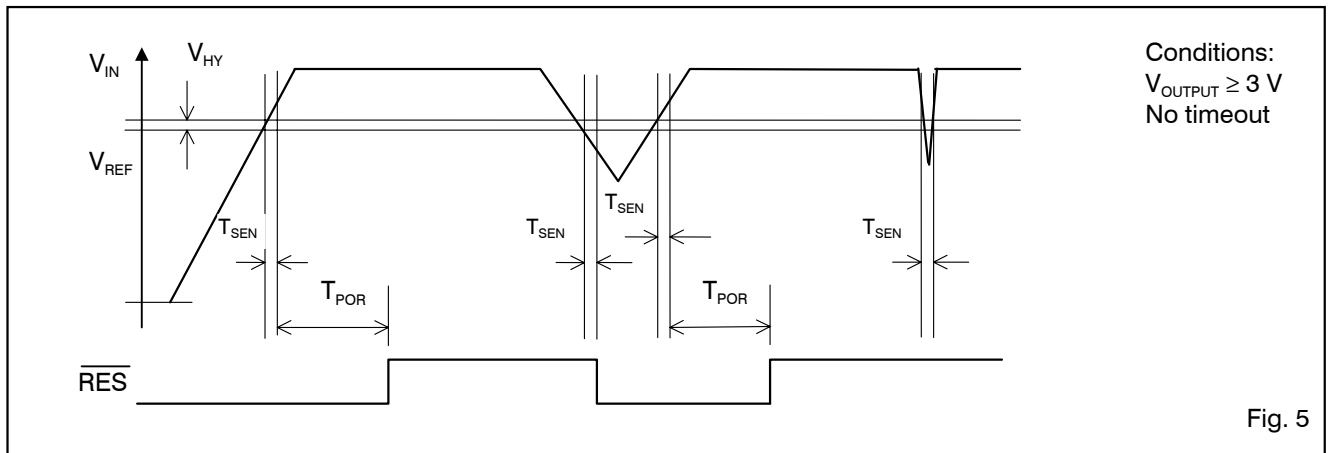

Fig. 5
- 7) The comparator reference is the power-down reset threshold. The power-on reset threshold equals the comparator reference voltage plus the comparator hysteresis (see Fig. 5).
At power-up the reset output ( $\overline{RES}$ ) is held low (see Fig. 5). After INPUT reaches 3.36 V (and so OUTPUT reaches at least 3 V) and  $V_{IN}$  becomes greater than  $V_{REF}$ , the  $\overline{RES}$  output is held low for an additional power-on-reset (POR) delay which is equal to the watchdog time  $T_{WD}$  (typically 100 ms with an external resistor of 110 k $\Omega$  connected at R pin). The POR delay prevents repeated toggling of  $\overline{RES}$  even if  $V_{IN}$  and the INPUT voltage drops out and recovers. The POR delay allows the microprocessor's crystal oscillator time to start and stabilize and ensures correct recognition of the reset signal to the microprocessor.